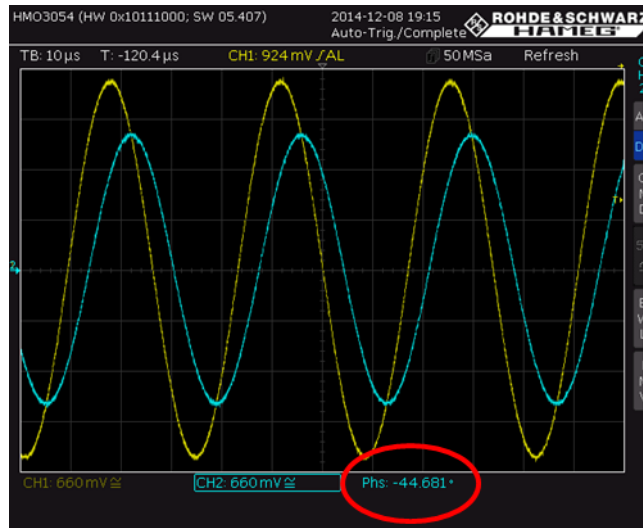

Fig. 2-43: Phase response between u_{in} and u_{out} .
- As can be expected, the measured phase response of u_{out} is nearly -45° at the cutoff frequency (see Fig. 2-43).